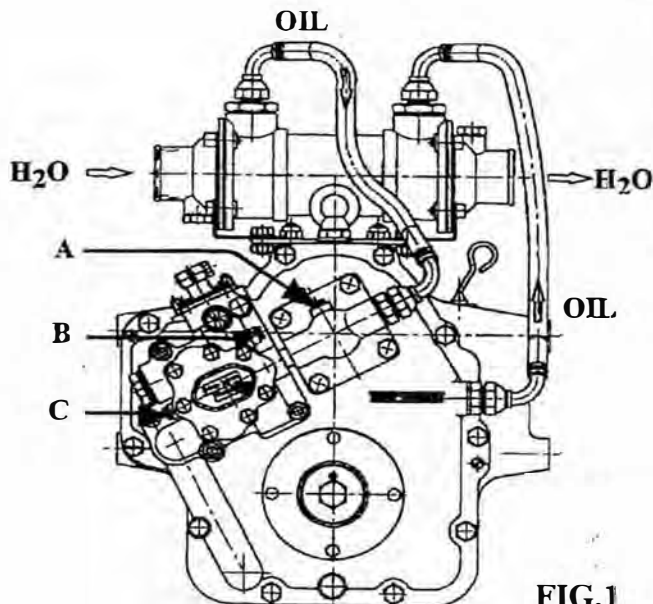

FIG.1
- The heat exchanger connection is achieved as shown in fig.1.
- Oil pressure measured at 1000 RPM engine speed, oil temperature 60°C, is to be between 23 and 26 bar. Pressure gauge connections M8x1 are placed, refer to fig.1, on A (forward) and C (reverse).